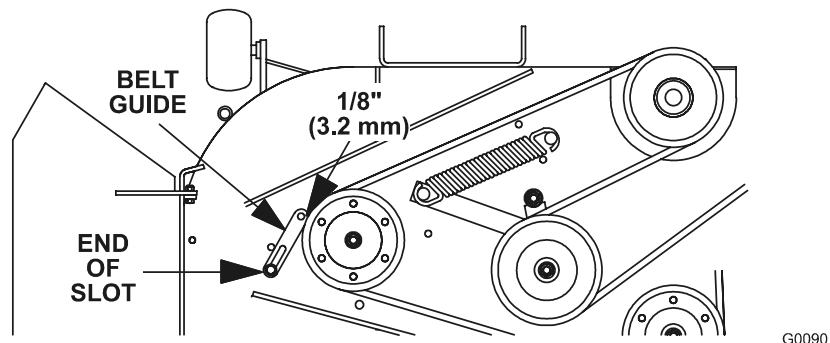

FIGURE 10
- g) Adjust anti-scalp rollers for Normal Operating Conditions. Place rollers in one of the positions shown in Figure 10. Rollers will maintain 3/4 in. (19 mm) clearance to the ground to minimize gouging and roller wear or damage.
- c) Note belt guide bolted to deck near the shield support stud and right-hand pulley. Guide should be 1/8" (3.2 mm) away from the belt, with bolt-end of guide near end of slot (See Figure 10).